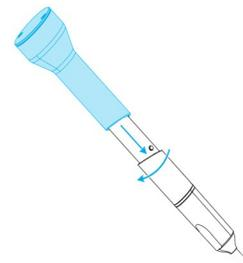

Figure 9: Using the integrity-check sleeve
5. Put the integrity-check sleeve onto the handpiece (see *Figure 9: Using the integrity-check sleeve, p. 21*).